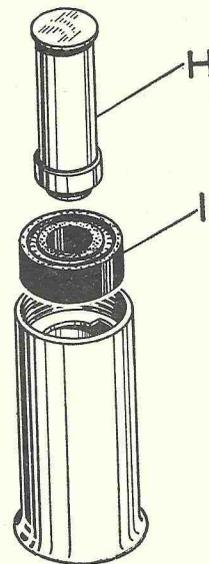

Fig. X6.
If the oil seal is to be replaced care must be taken that the feather edge of the seal is not damaged. Enter the oil seal (i) Fig. X6 into the holder, metal part first, and drive home using B.S.A. Service Tool part number 61-3007 (H) Fig. X6. Place the oil seal holder over the shaft and pass it up the shaft until it is firmly held on the tapered section. Do not use excessive force or the oil seal may be damaged. Place the circlip over the shaft followed by the shims and top bearing and then the bottom bearing. Place the steel washer over the thread of the gland nut, screw up the gland nut and holding the shaft firmly in a soft-jawed vice as described in dismantling procedure firmly tighten the gland nut.